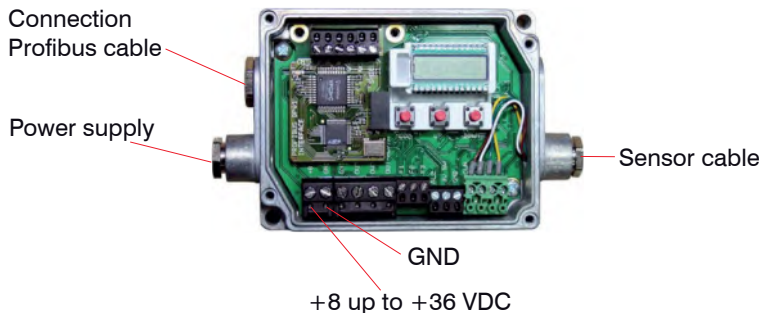

Fig. 16 Commissioning Profibus
- Open the controller and connect the power supply, see Fig. 16.